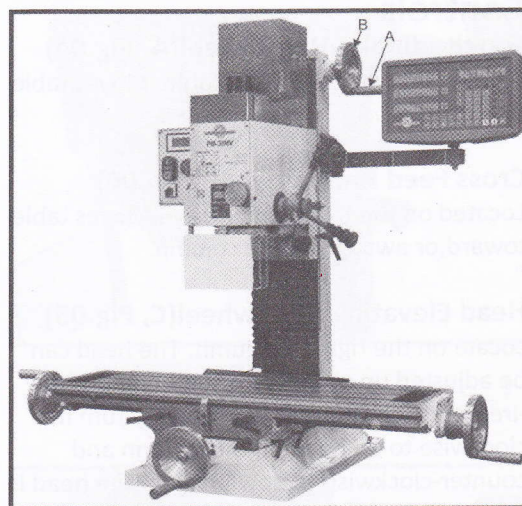

Fig.02
1. Screw handles(A, Fig.02)onto handwheel(B, Fig.03)and tighten.